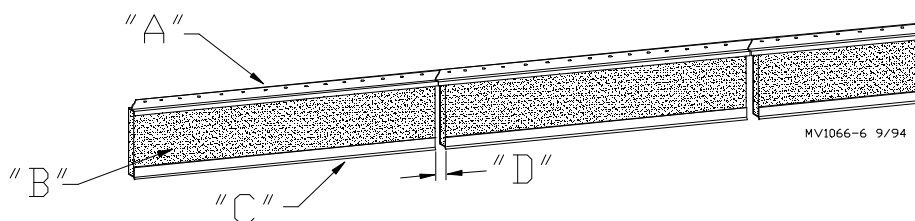

Figure 2.
3. Beginning at one end, secure the baffle sections to the wall using screws or nails (not provided). The hinges include slots for securing the baffle sections to the side wall or ceiling. See Figure 2.
### Legend: Figure 2